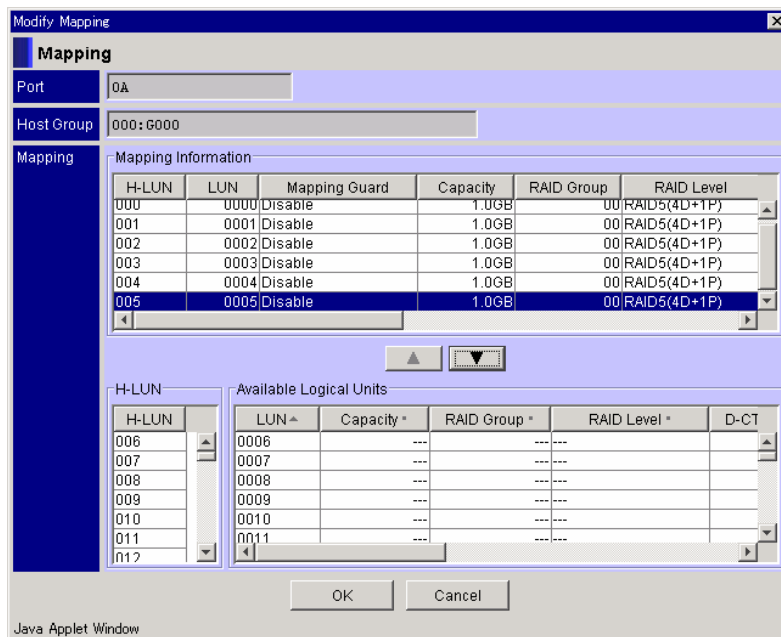

Figure 7.10 Modify Mapping Window
5. Select one H-LUN to be added. Select LUN, and click . The added contents display in the Mapping Information list. See Figure 7.10.